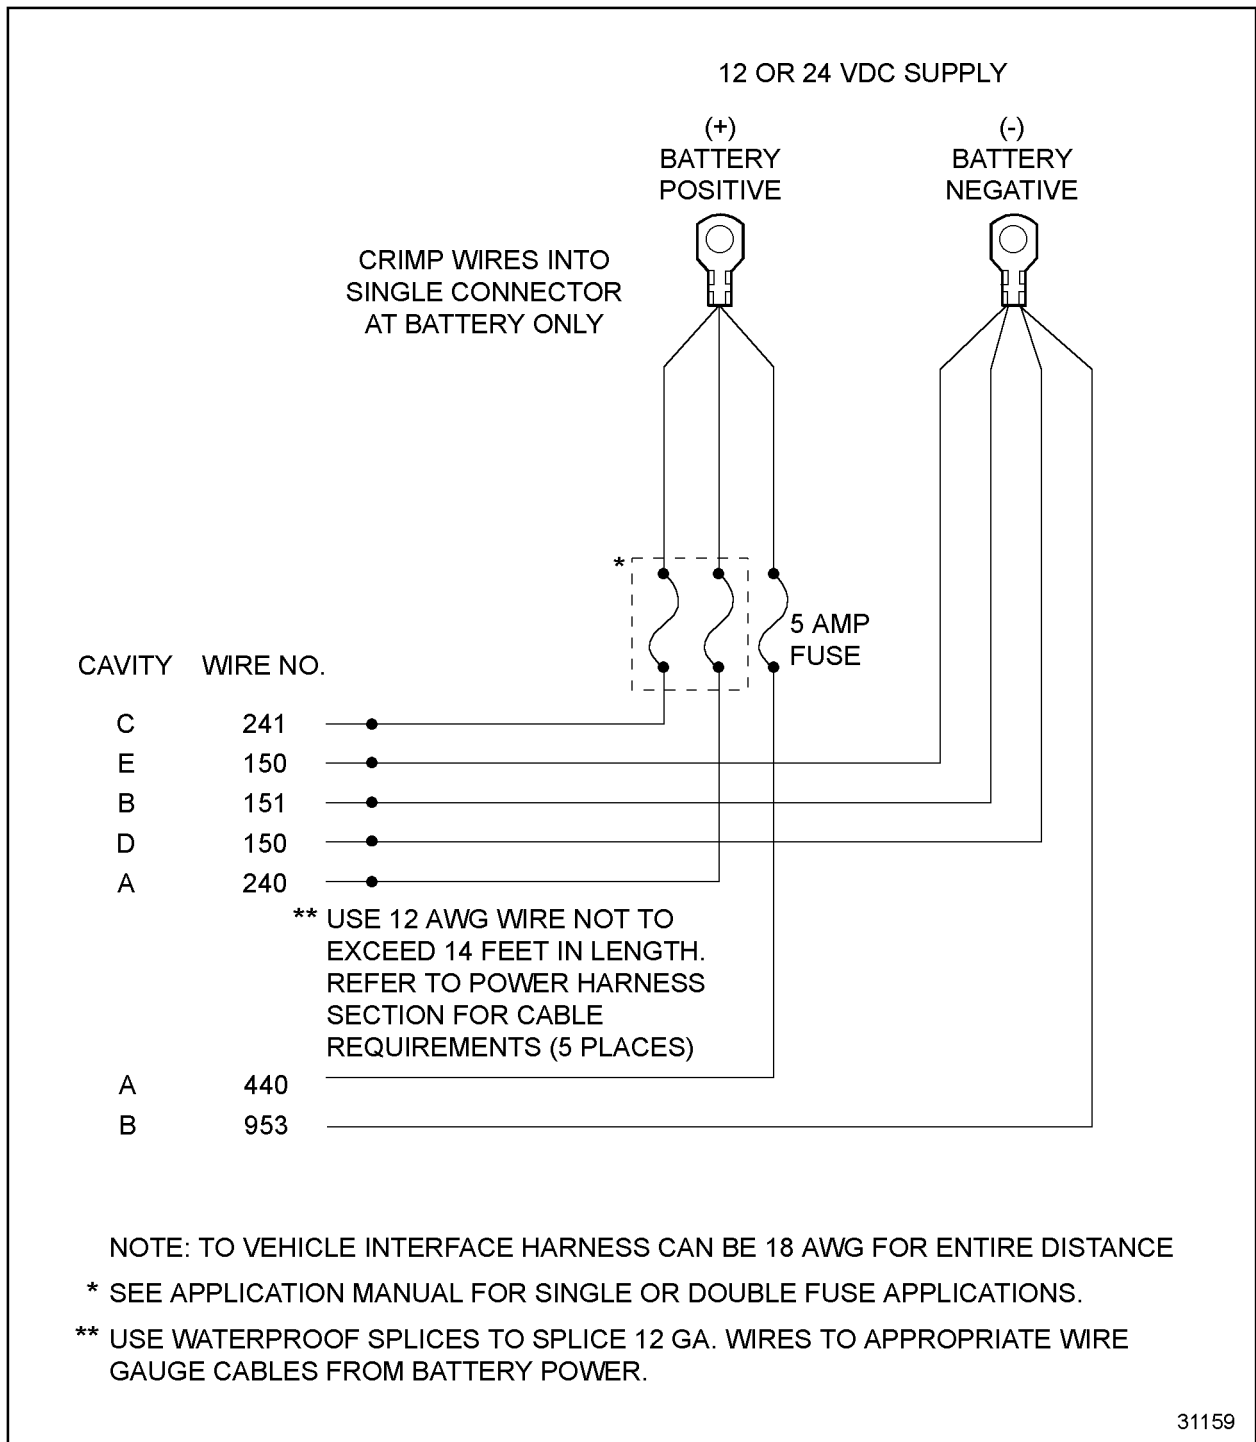
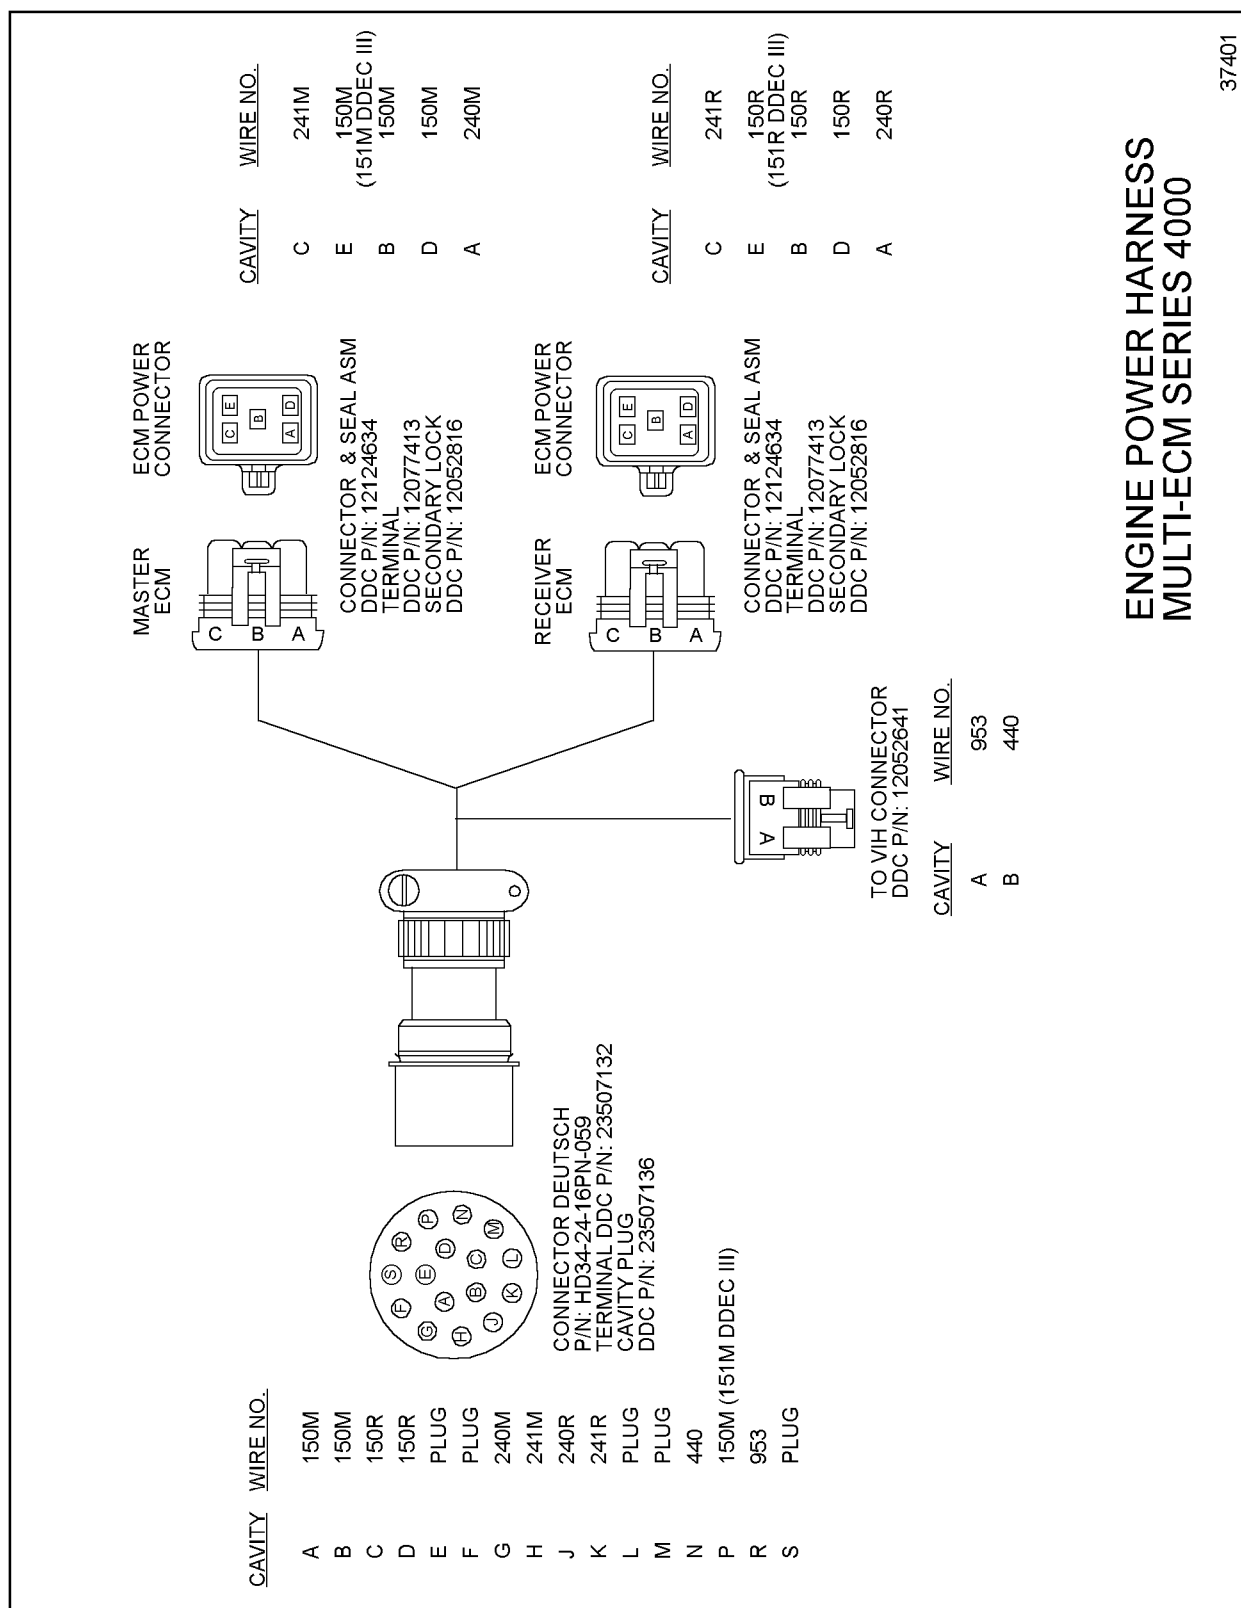
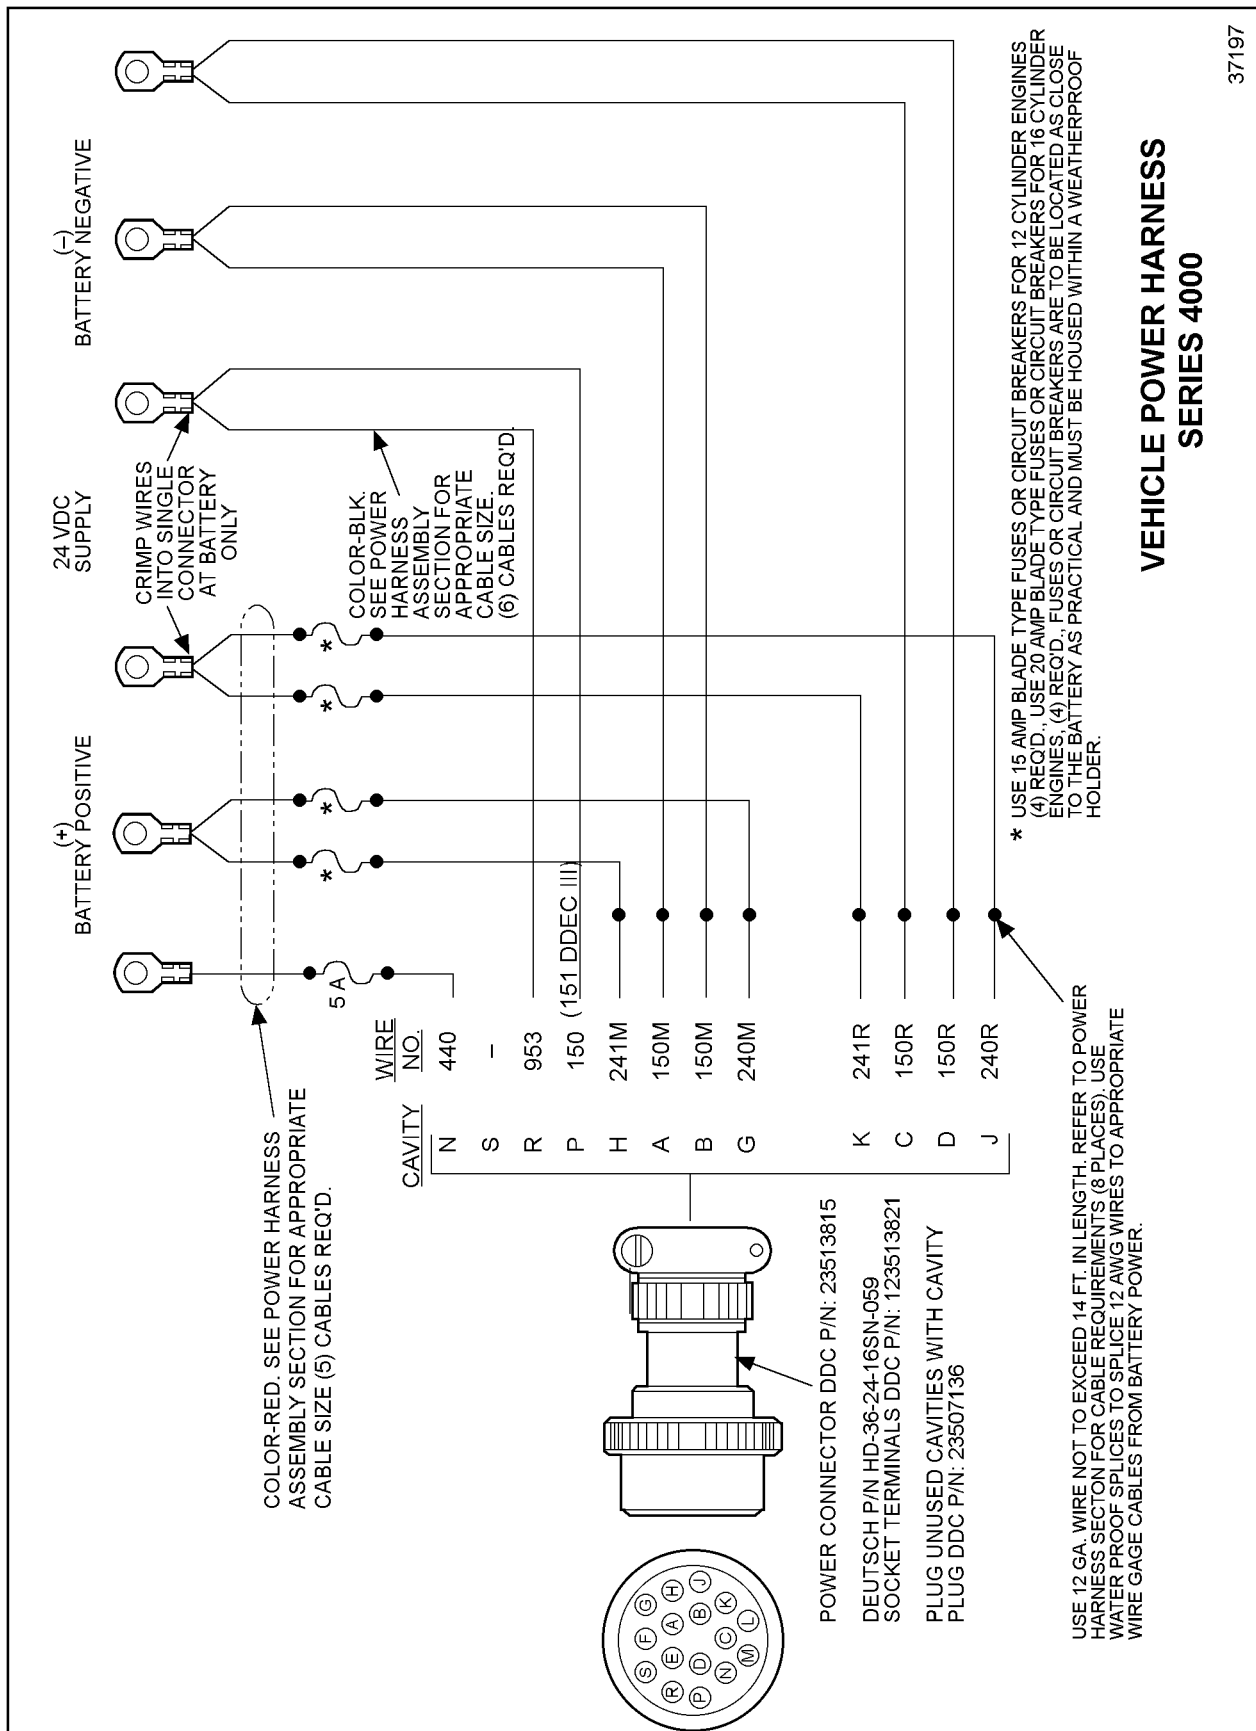

Figure 10-3 Power Harness Diagram
Figure 10-4 Series 4000 Engine Power Harness
Figure 10-5 Vehicle Power Harness, Series 4000 Engine
2. Measure voltage at other ECM fuse or circuit breaker. Note that battery side does not contain #240 or #241 wires. See Figure 10-3. For Series 4000 engine power harness, see Figure 10-4. For Series 4000 engine power harness, see Figure 10-5.